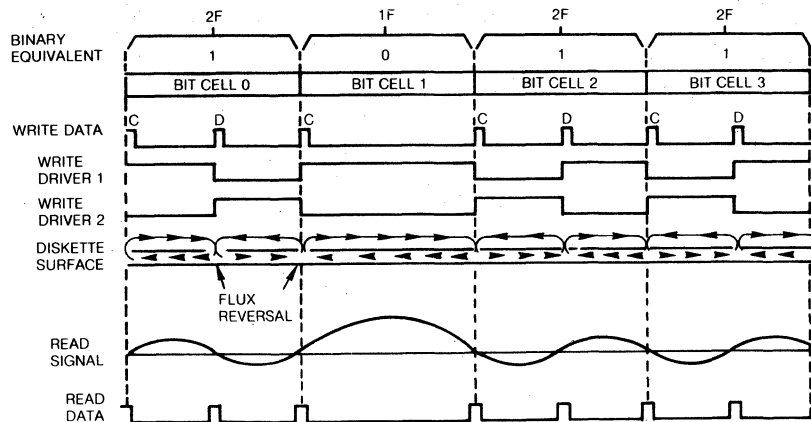

FIGURE 29. 1F AND 2F RECORDING FLUX AND PULSE RELATIONSHIP
1.4.5 Figure 29 shows the 1F and 2F recording flux transitions with pulse relationship.